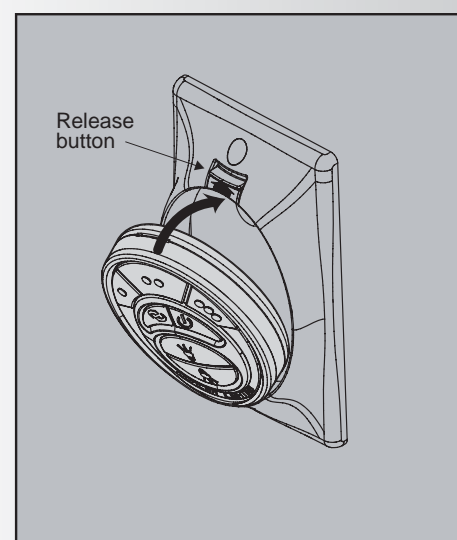

Fig. 29
1. To place the transmitter in the wall plate, put the bottom end in first and then press the top into the wall plate. The transmitter is now held in the wall plate and will function from here. (Fig. 29)